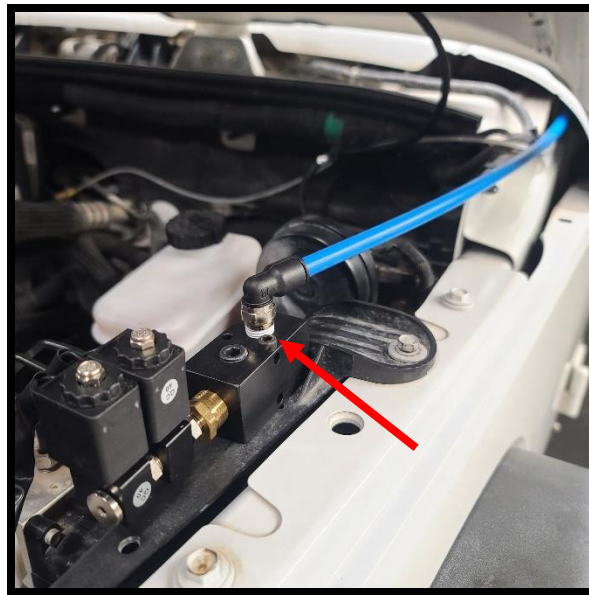

Figure 12
3-B) Install the air locker manifold assembly (from **Step 1-C**) as shown in **Figure 12**. Install in the factory hole using the provided M5x40mm socket head bolt / nut and tighten in place. Reinstall all three (3) bolts / nut removed in **Step 3-A** and tighten.